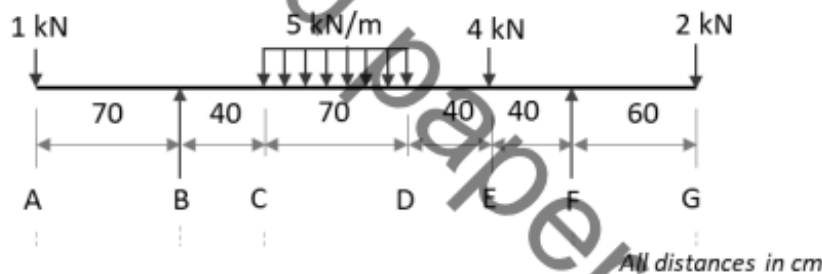

Figure 1
2. Determine the values and draw the shear force and bending moment diagrams for the loaded over hanging beam shown in figure 1. [15]